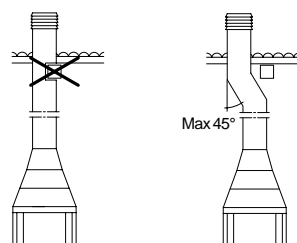

Fig. 5.2.3
- The **CHIMNEY TOP** shall be the **WINDPROOF** type with an inside cross section equivalent to that of the flue and with a smoke outlet passage section at least **DOUBLE** the internal one of the flue (Fig. 5.2.3).
- To avoid draught problems, each stove should have its own flue. If there is more than one flue on the roof the others should be situated at a distance of at least 2 metres and the stove's chimney top should be at least 40 cm **ABOVE** the others (Fig. 5.2.3). If the chimney tops are near each other install some dividing panels.
almeno **DOPPIA** di quella interna della canna fumaria (Fig. 5.2.3).